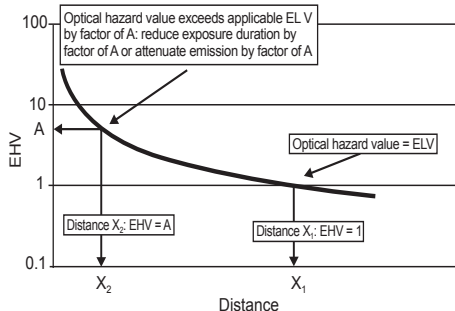

Figure 1 – Example of graphic presentation of distant dependent emission hazard values
With increasing distance from a lamp the applicable hazard values decrease - see Figure 1. At the distance X_1 , $E_{HV} = 1$, i.e. the E_{HV} equals the applicable emission limit value. Distance X_1 is the hazard distance (HD) for this lamp system. At distance X_2 , the optical radiation hazard value exceeds the applicable emission limit value by a factor of A . At this distance, excessive exposure to optical radiation may be reduced either by restricting exposure time by a factor of A (if the emission limit values are expressed in terms of radiant exposure or time integrated radiance), or by using engineering controls (such as filters) which attenuate